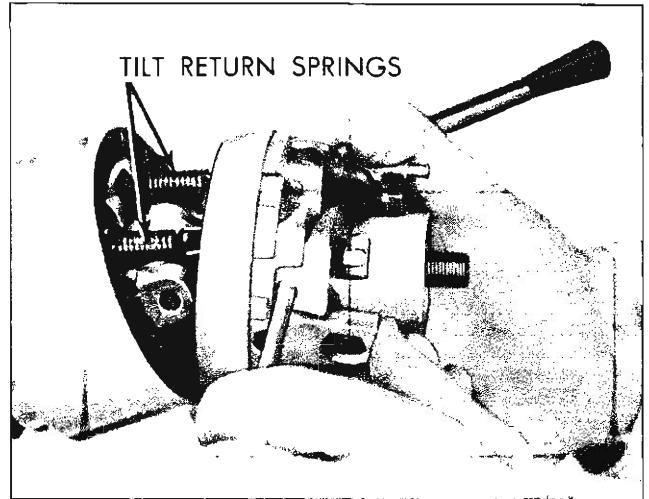

Fig. 23—Removing the Actuator Assembly
11. Lift the tilt lever to disengage the lock shoes from the support locking pins and remove the actuator assembly, leaving the turn signal cable in the mast jacket (fig. 23).